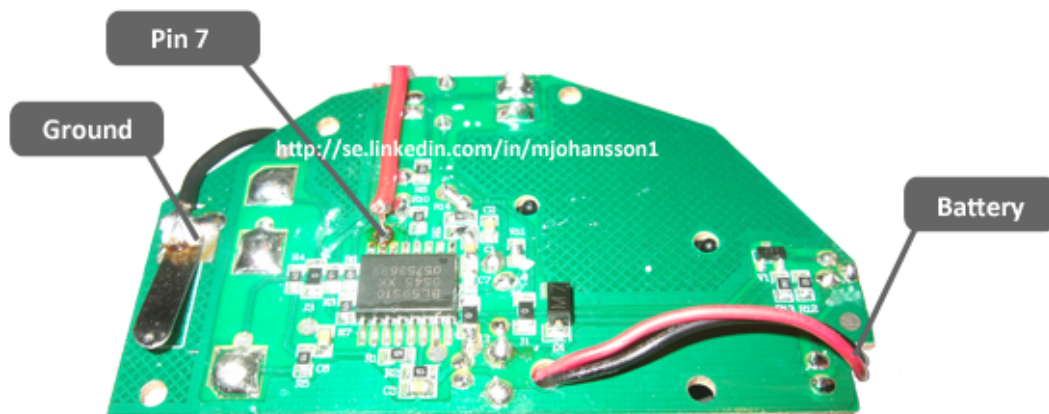

Figure 3 - Modification of the smoke alarm circuit board.
- Solder a thin (red) wire on the dot in front of the IC's pin 7 and a thin (black) wire on the ground, see Figure 3 below.